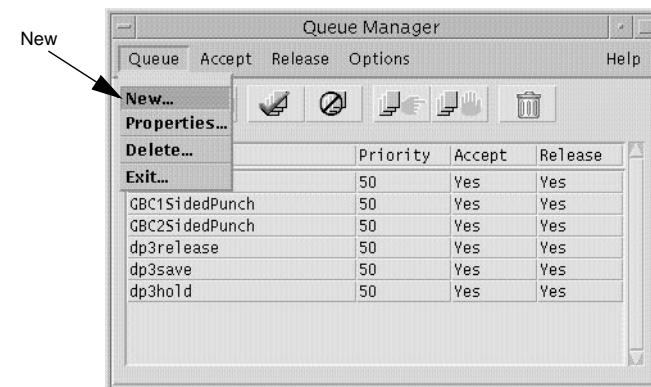

Figure 6-25 The Queue Menu in Queue Manager
2. Pull down the **Queue** menu from the toolbar and select **New**, as shown in Figure 6-25.